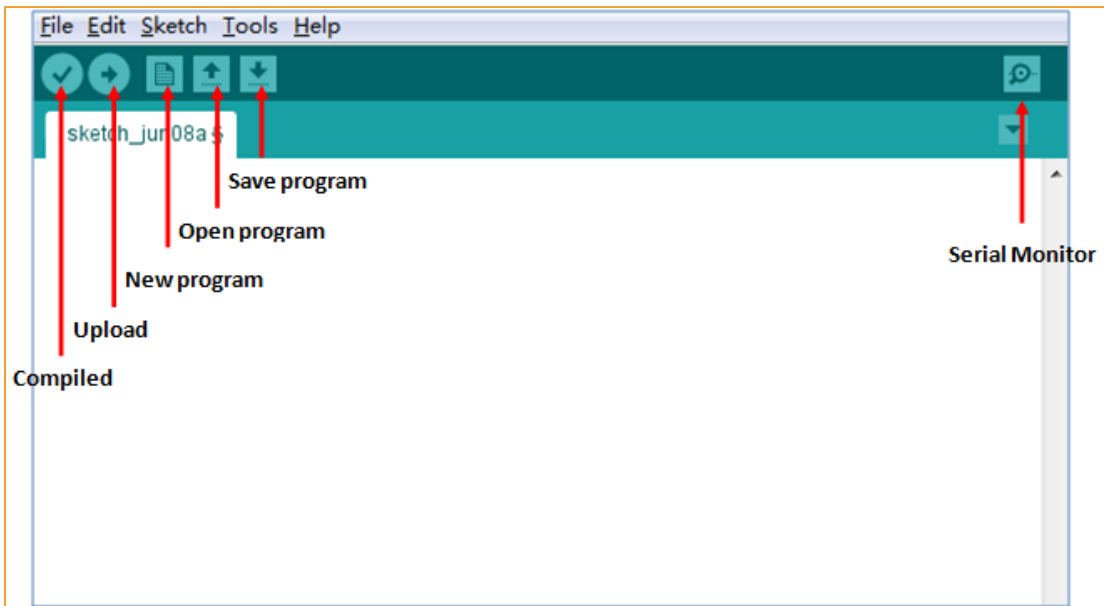

Figure 4-10 Arduino IDE interface
- 1、 The first thing that catches your eye is the interface below. The toolbar button functions are "Compile" - "Upload" - "New Program" - "Open Program" - "Save Program" - "Serial Monitor", as shown in Figure 4-10.